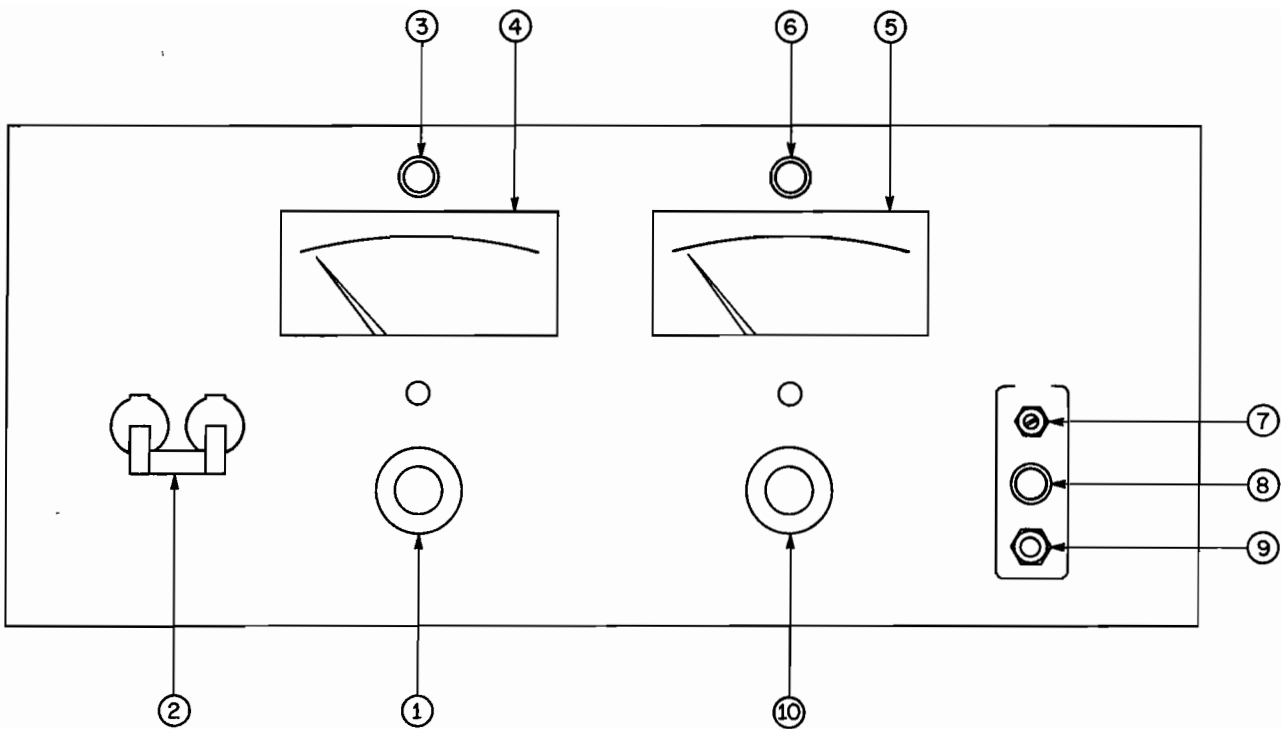
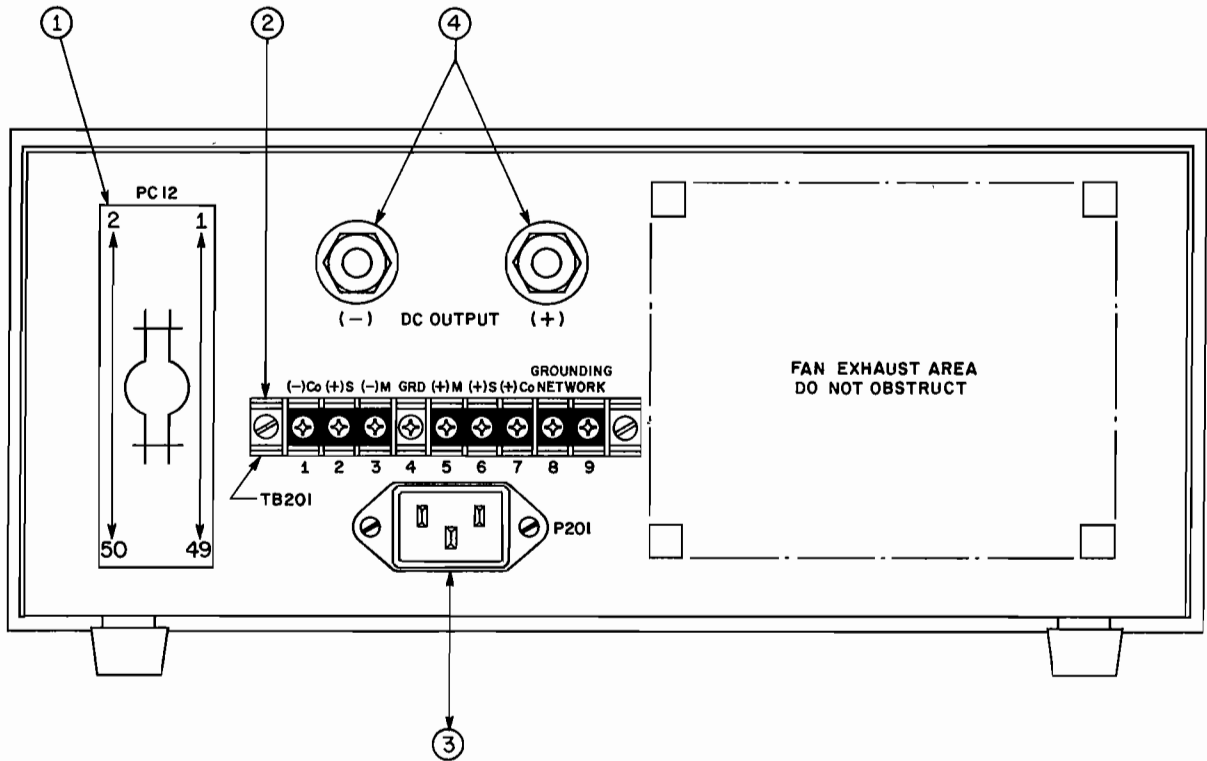

FIG. 2-2 CONTROL AND TERMINATIONS, ATE 3/4 RACK GROUP, FRONT.
FIG. 2-3 TERMINATIONS, ATE 3/4 RACK GROUP, REAR.
- a) FRONT PANEL: Refer to FIG. 2-2 and Table 2-2.
- b) REAR: Refer to FIG. 2-3 and Table 2-3.
2-9 A simple operating check after unpacking and before permanent installation is advisable to ascertain whether the power supply has suffered damage resulting from shipment. Refer to FIG. 2-2 and to FIG. 2-3 for the location of the operating controls and output terminals.
A resistor/capacitor network is connected from the negative monitor terminal to the metal chassis of the power supply. If this internal network is *not* desired, the connection to the chassis can be opened by removing the link (8)-(9) on TB201 (See FIG. 2-3).